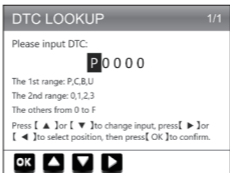

Figure 6.1.2
1. Select LOOKUP and press [OK] to access this function. (See Figure 6.1.2) Press the arrow keys (Up & Down) to change the input, then press the arrow keys again (Left & Right) to select the position. Press [OK] to confirm.